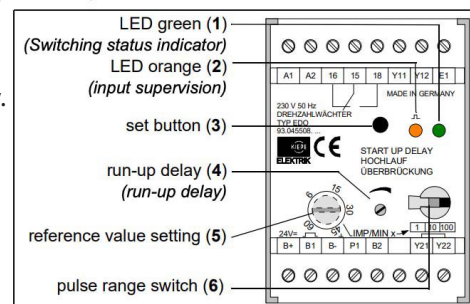

Fig. 1.1 Operating elements of the speed monitoring device
The indicator input (17) (terminals B+, B1, B2, B-) of the speed monitoring device is designed for all common rotational speed indicators complying with the NAMUR regulations (s. fig. 1-1). It is also possible to connect 3-wire pulse indicators (negative switching NPN or positive switching PNP). The indicator input (17) can be supervised by means of the light-emitting diode LED orange (2). Any number of rotational speed monitoring devices can be connected to one pulse indicator.
By means of the potentiometer run-up delay (4) the duration of the run-up delay can be set between 0 and approx. 40 seconds (s. fig. 1-1). During this time, the output relay (16) remains attracted, and the plant can be started.